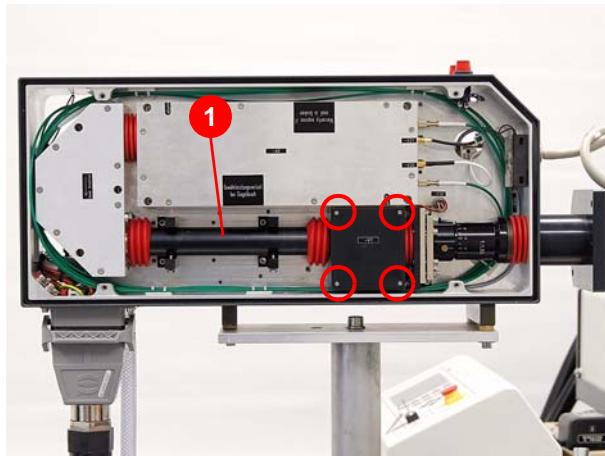

Figure 4.41 Dismantling the beam guide
2. Remove the beam guide (1) (Figure 4.41) of the laser head.